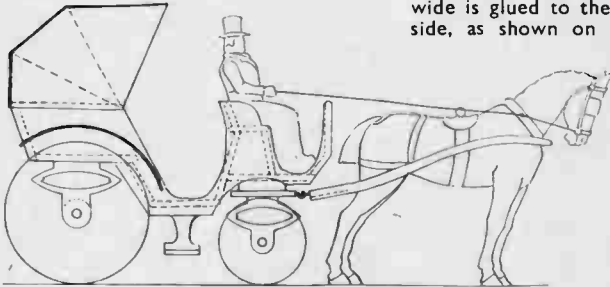

Fig. 1—Side elevation with adjoining parts shown dotted
A clear-cut outline diagram of the cab is given in Fig. 1, and in this, all the parts are shown. The dotted
Lay the two pieces aside, and proceed with all the cross pieces lettered in the diagram as (B) right on to letter (L). All these will be of one width, of course,  $1\frac{1}{2}$  in., and run from one side of the model to the other, as the detail, Fig. 1, shows. The best way of getting the lengths of the pieces will be to measure each off from the full size pattern of the side, but as some workers may prefer to have the actual lengths given them, we include them here for easy reference. They are—(B) 1 in., (C)  $1\frac{1}{2}$  in., (D)  $\frac{3}{4}$  in., (E)  $\frac{1}{2}$  in., (F)  $1\frac{1}{2}$  in., (G)  $\frac{1}{2}$  in., (H)  $1\frac{1}{2}$  in., (I) 1 in., (J)  $1\frac{1}{2}$  in., (K)  $\frac{3}{4}$  in., (L) 1 in.